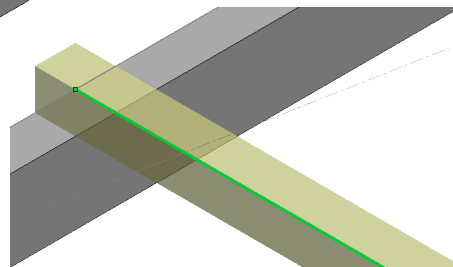

Fig. 28
Step 7. Click **BOTTOM CENTER POINT** of profile sketch, **Fig. 28** and